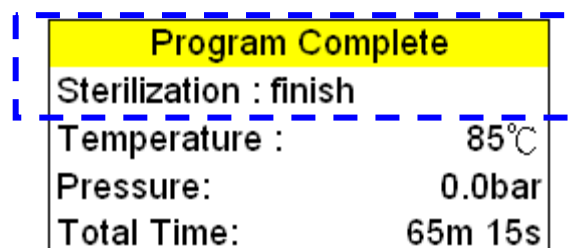

Figure 99- Program Complete
- G. On completion, the buzzer will sound and the Program Complete message is displayed as shown in Figure 99- Program Complete.